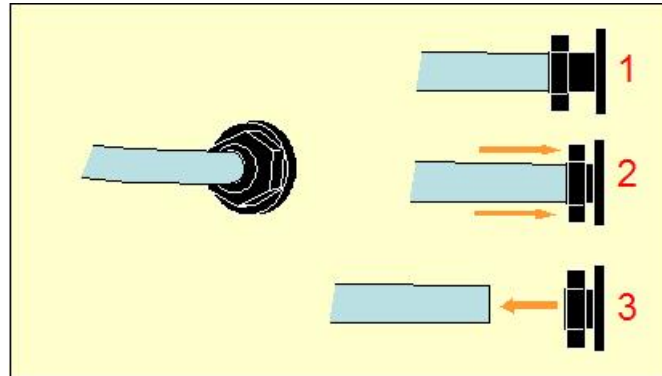

Figure 16. Inlet and outlet tubes connection and disconnection.
WARNING: This equipment features a system that keeps the tube affixed into the Inlets and Outlets. Simply push the tube firmly to connect it. To remove any tube from the outlets (see Figure 16), press the plastic ring inwards (2) and then pull the tube to remove it (3).